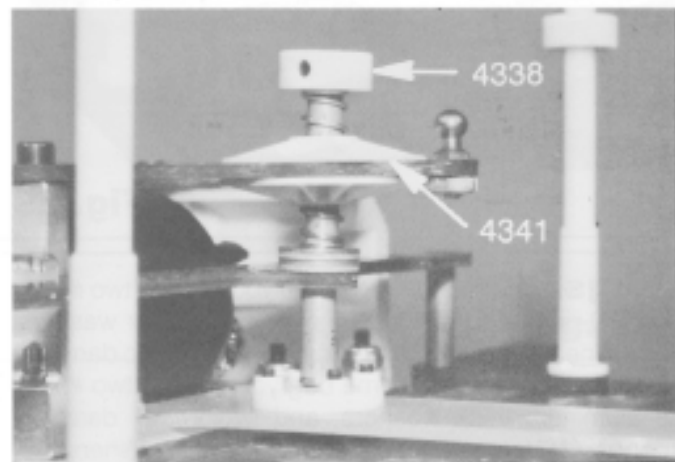

Fig. 36
□ **Figs. 36 & 37** (1) Go back to bag 6 and take out the second plastic dampner washer, with black O-ring installed, and place it over the upper dampner post on top of the graphite upper brace. Make sure the smooth side of this plastic dampner washer is facing down. (If you have not already coated this black O-ring with diff lube, do so now.) (2) From the same bag remove the #4341 dampner spring, one #4338 nylon locking collar and its #6951 4-40 x 1/8" set screw. (3) Install the spring on top of the dampner post and then (4) the nylon locking collar and (5) lightly tighten the set screw (fig. 36).